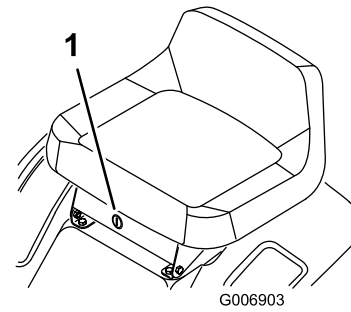

Figure 11
If you need to use the blade control (PTO) while backing up, turn off the interlock feature using the KeyChoice switch located near the seat bracket (Figure 11).
2. Insert the KeyChoice key into the switch (Figure 11).